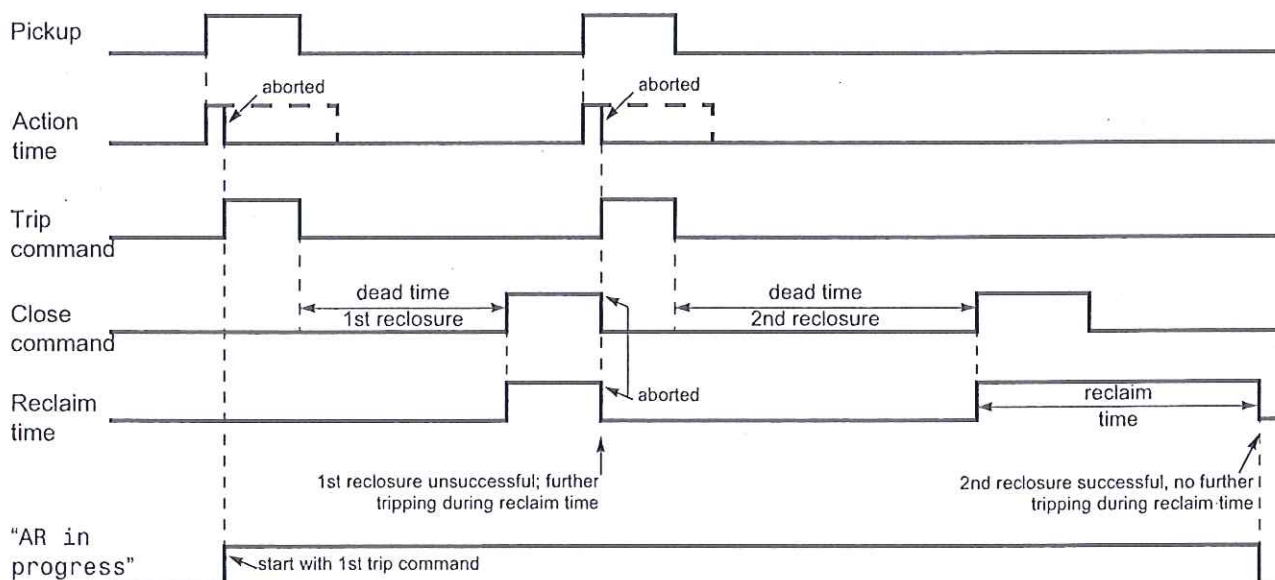

Figure 2-22 Timing diagram of a double-shot reclosure with action time (2nd reclosure successful)
Experience shows that about 85 % of the arc faults on overhead lines are extinguished automatically after being tripped by the protection. The line can therefore be reclosed. Reclosure is performed by an automatic reclosure function (AR). An example of the normal time sequence of a double-shot reclosure is shown in Figure 2-22.